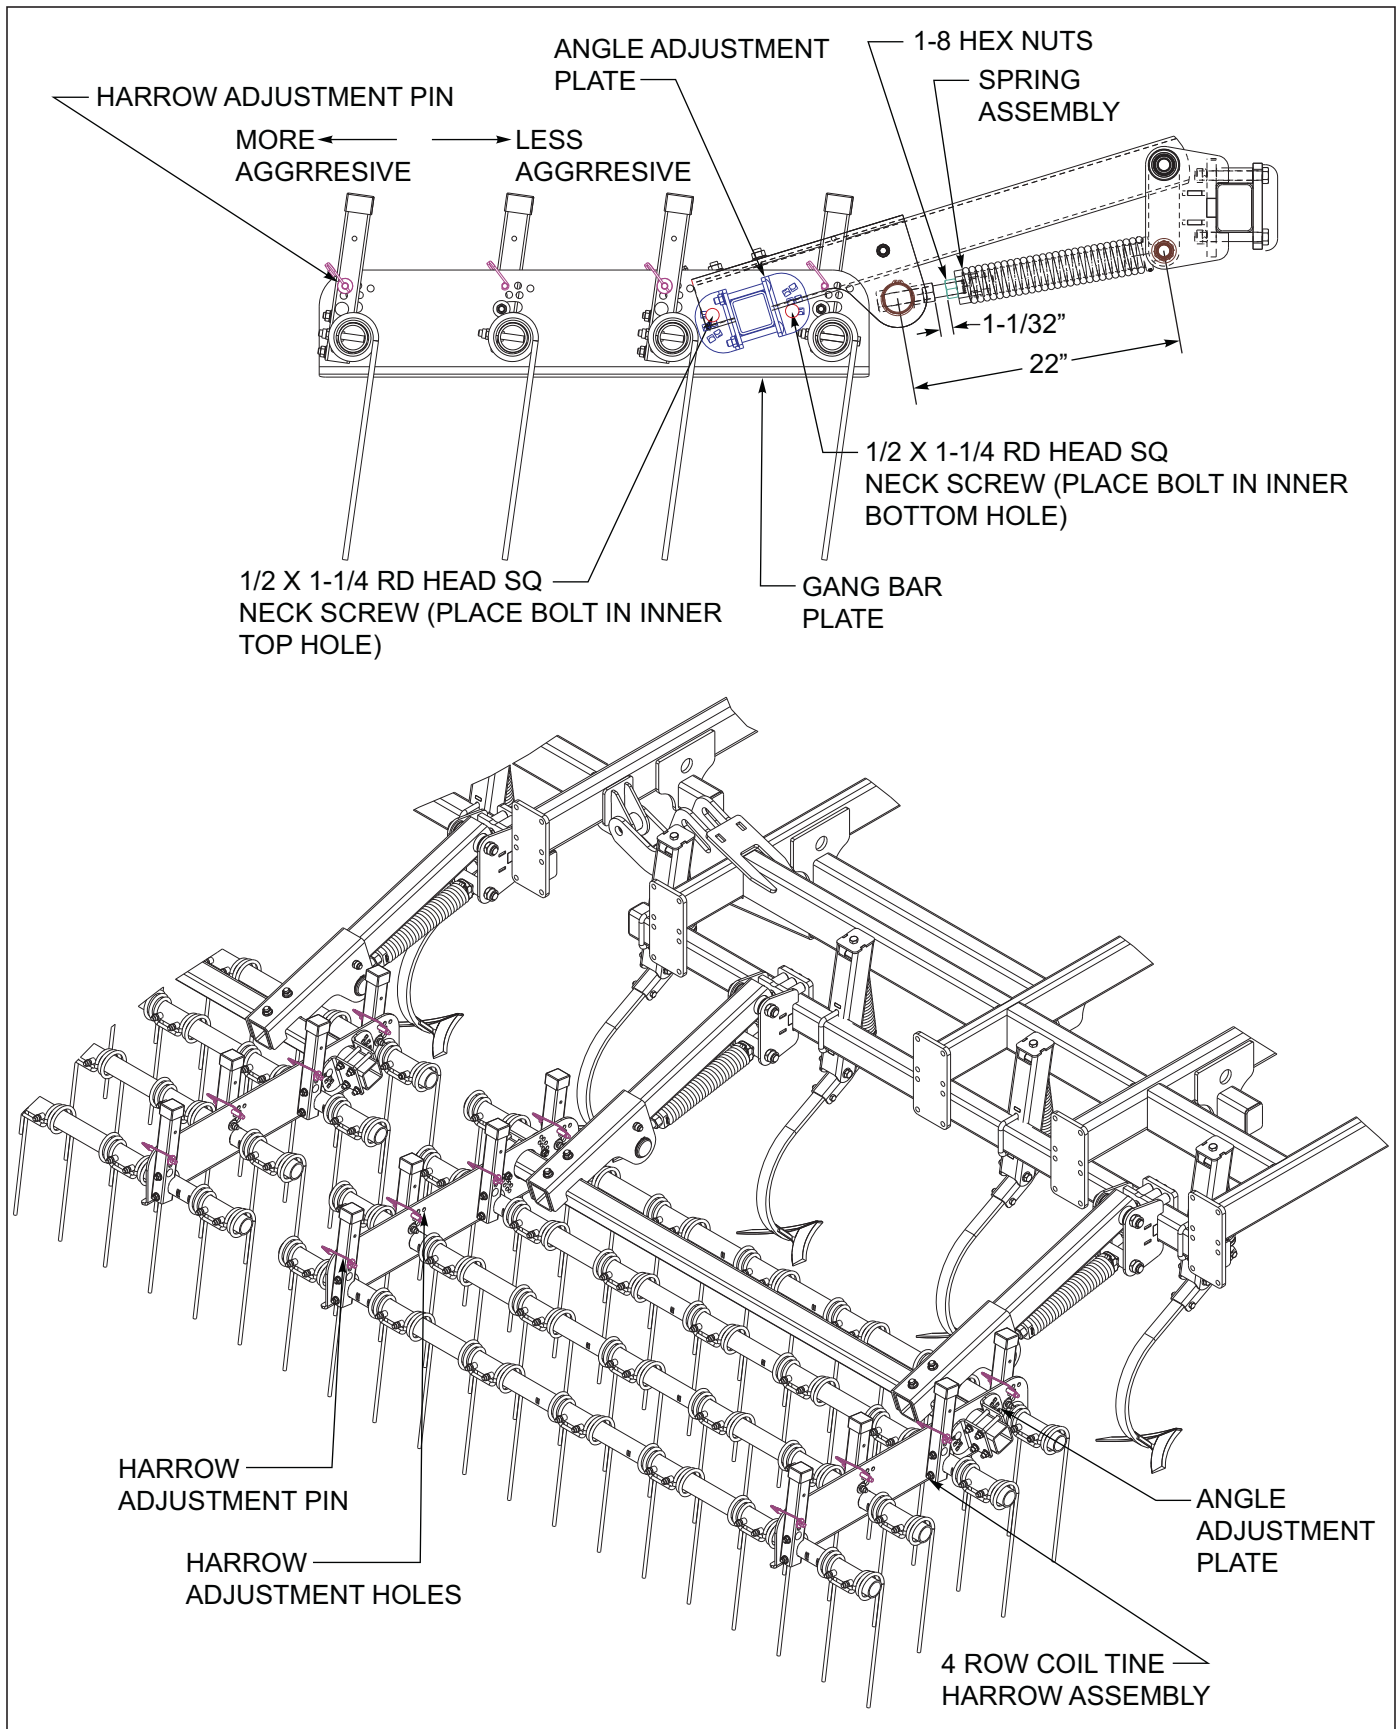

Figure 4-18: 4 Row Coil Tine Adjustment
2. In general tine harrows have better capabilities for handling more residue and wetter conditions. When operating the coil tine harrow, a more vertical tine tooth angle will make the harrow more aggressive. A lower/flatter tine angle will make the harrow less aggressive but will handle more residue and wetter conditions. To change the tine angle, raise the harrow off the ground. Remove the harrow pin from both angle adjustment tubes per tine gang bar tube See Figure 4-18. Rotate the angle adjustment tubes forward (less aggressive) or rearward (more aggressive) and reinstall both spring clip pins. Repeat the tine adjustment for each tine gangbar tube and harrow section.
5. The initial setting for the spring assembly should be 22". Each harrow section may also be adjusted for operating height. To change the harrow height See Figure 4-18, loosen both 1-8 hex nuts against the spring end. Raise or lower the harrow arm by turning the bolt head for the spring adjustment bolt. Then re-tighten the 1-8 hex nuts. When initially setting the harrow height, the bottom tips of the tine tooth (pulled back at the desired tooth angle) should be approximately level with the field cultivator sweeps.